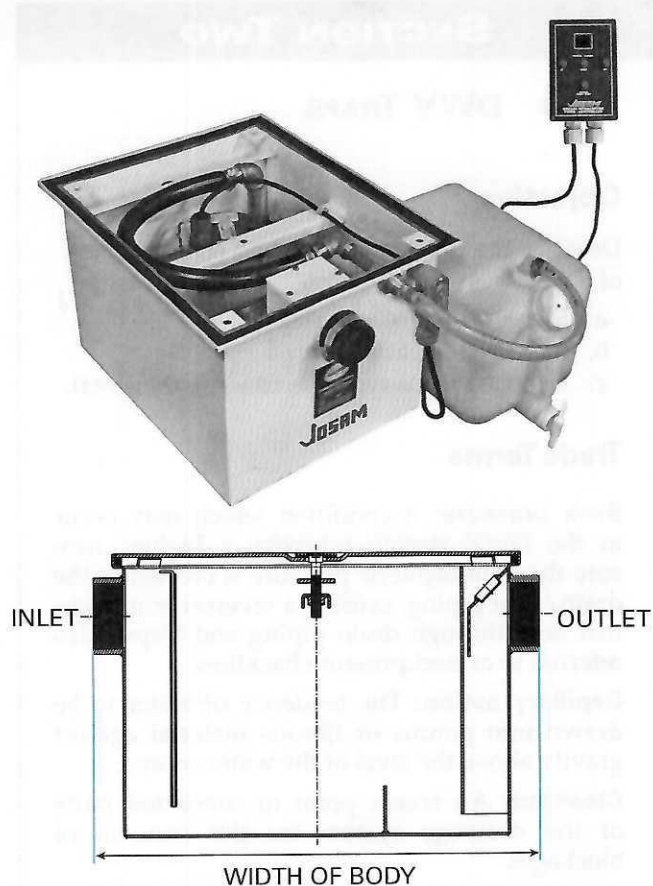

Figure 5 Grease interceptor.
**Interceptors** prevent hazardous or undesirable materials from entering building drainage systems, public or private sewers, and sewage treatment plants or processes. Hazardous or undesirable materials include hair, lint, fats, oils, grease, flammable liquids, sand, solids, acid or alkaline waste, and chemicals. Interceptors are available for specific applications. Hair interceptors, for example, may be installed in beauty salons, barber-shops, hospitals, or pet grooming shops. Grease interceptors (Figure 5) may be installed in restaurants, commercial kitchens, or auto repair shops. Although they differ in design, all interceptors operate on similar principles. Wastewater flows through a chamber where harmful materials are separated before the wastewater flows out again.